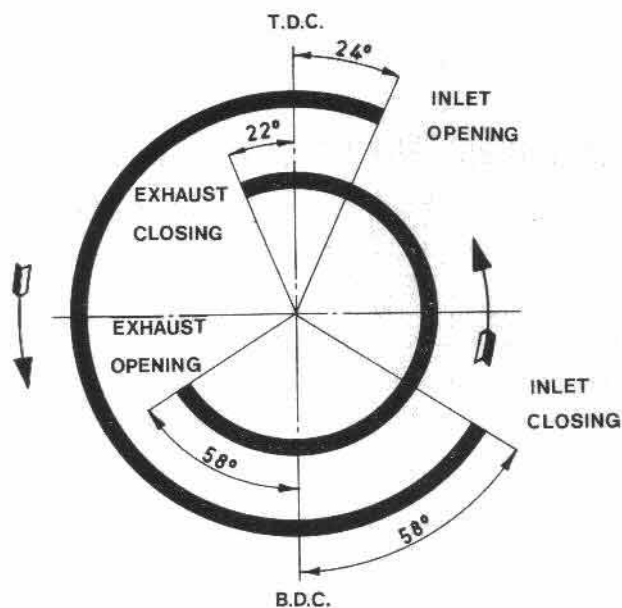
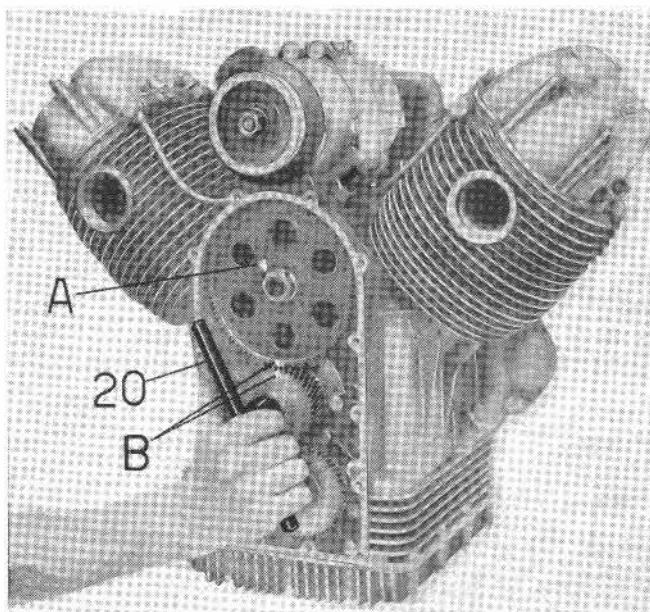

Fig. 51
Fig. 57
Timing data (rocker clearance for valve timing 0.5 mm. (.0196")) are the following (see Fig. 51):
At the end of the above operation mark the two teeth of cam wheel, the tooth of distribution gear engaging same and also mark the slot in cam wheel in which the dowel is inserted (see A and B on Fig. 57). Now, checking opening and closing of inlet and exhaust valves by suitable degree plate, timing data should be as shown in diagram on Fig. 51.
using special wrench No. 12912900 (see 20 on Fig. 57) and check if marked tooth on distribution gear engages the two marked teeth of cam wheel.
- fit cam wheel, making sure that marked slot matches with dowel on camshaft and that the two marked teeth on cam wheel engage the marked tooth on distribution gear. To check this, use special tool No. 12912900 (see 20 on Fig. 57). To tighten nut securing cam wheel to camshaft use ring wrench and tool No. 12911801 (see 16 on Fig. 9).